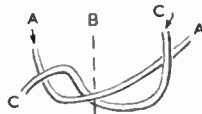

Fig. 3
behind (A) and (B) and forwards through the loop formed between (B) and (A) (see Fig. 3). Pull tightly horizontally. Next take (A) again, remembering that it is now on the right hand side, and repeat the movements but in the reverse direction. This completes one knot, which when pulled tight will lie quite flat. Continue until 11 ins. has been worked. Then cut off the centre core, and, using one strand from each of the side strings, make two more complete knots. Tie the ends off securely and cut off short. Make into a ring, sewing the ends neatly together. Knot a second handle exactly like it.